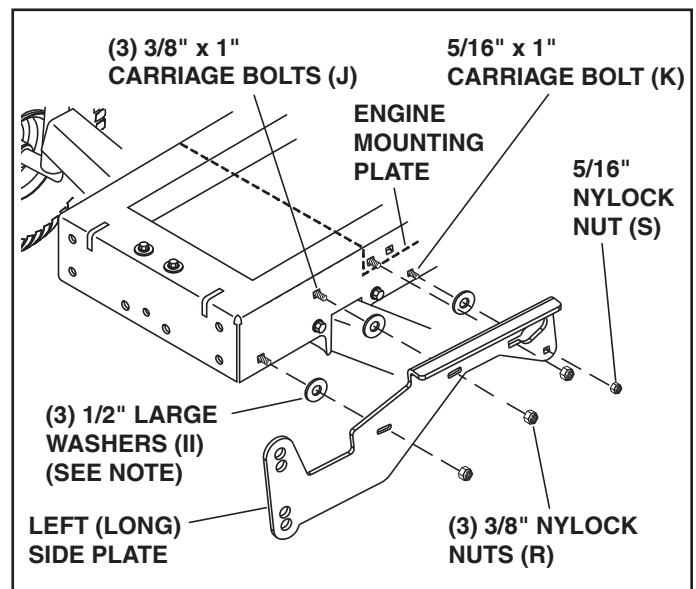

FIGURE 18
STEP 19: INSTALL SIDE PLATES (SEE FIGURE 18)
- Install the left (long) side plate on the tractor frame using three 3/8" x 1" carriage bolts (J), three 3/8" nylock nuts (R), one 5/16" x 1" carriage bolt (K), one 5/16" nylock nut (S) and three large 1/2" washers (II) if needed (see note). **Do not tighten yet.** Repeat for the right side plate.